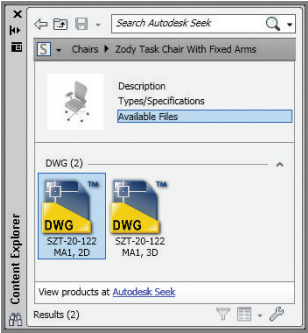

FIGURE 9.18 Selecting a specific file to download
- 6. Double-click the selected item. The page that appears in the Content Explorer lists the available files. Right-click the first icon—SZT-20-122 MA1, 2D—for the two-dimensional representation of this chair (see Figure 9.18) and choose Insert. The cursor displays a thumbnail image of the file with a progress bar.